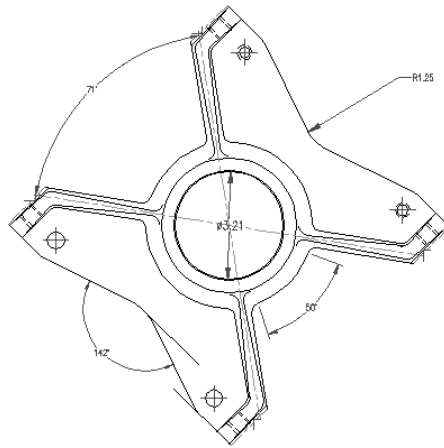

Figure 14-22: The bearing housing with center marks, radial and diameter dimensions, and angular dimensions
9. Save your drawing. It should look like Figure 14-22.